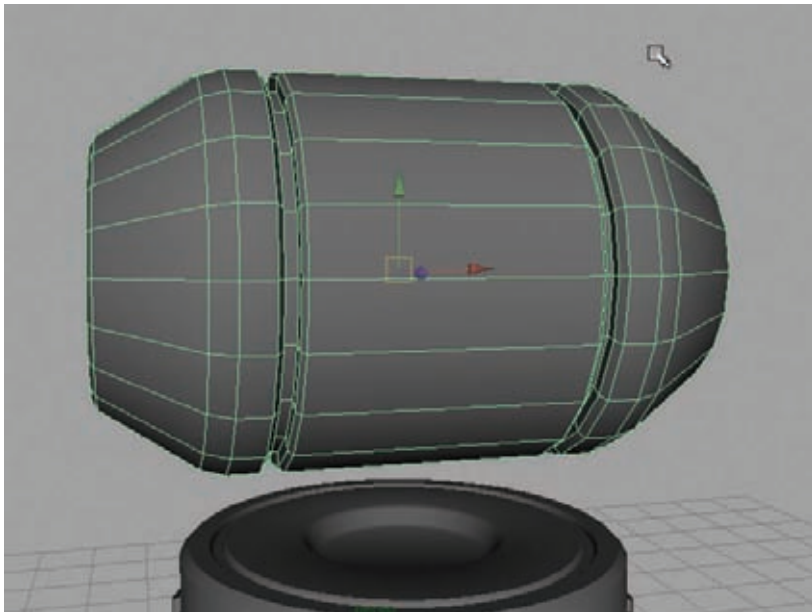

Figure 8.11
7. Extrude once again and scale in along the length of the canister. With another Extrude, pull back out, approaching the original surface depth. With a Bevel or another extrusion, round off the edges here. You should have something similar to Figure 8.11.